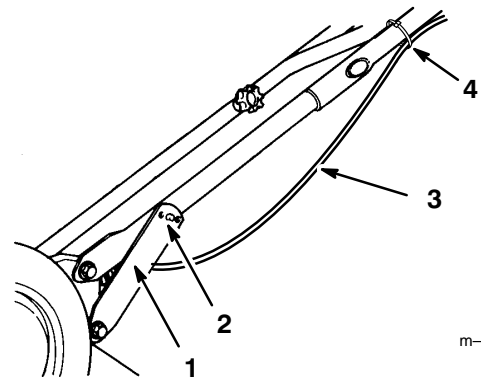

Figure 2
4. Move the handle support brackets slightly outward so they will not be in the way when pivoting the handle backward into the operating position (Fig. 2).
6. Move the support brackets inward while positioning the handle studs into center hole of the brackets (Fig. 2).
8. Secure the cable to the upper handle with a cable tie (Fig. 2).